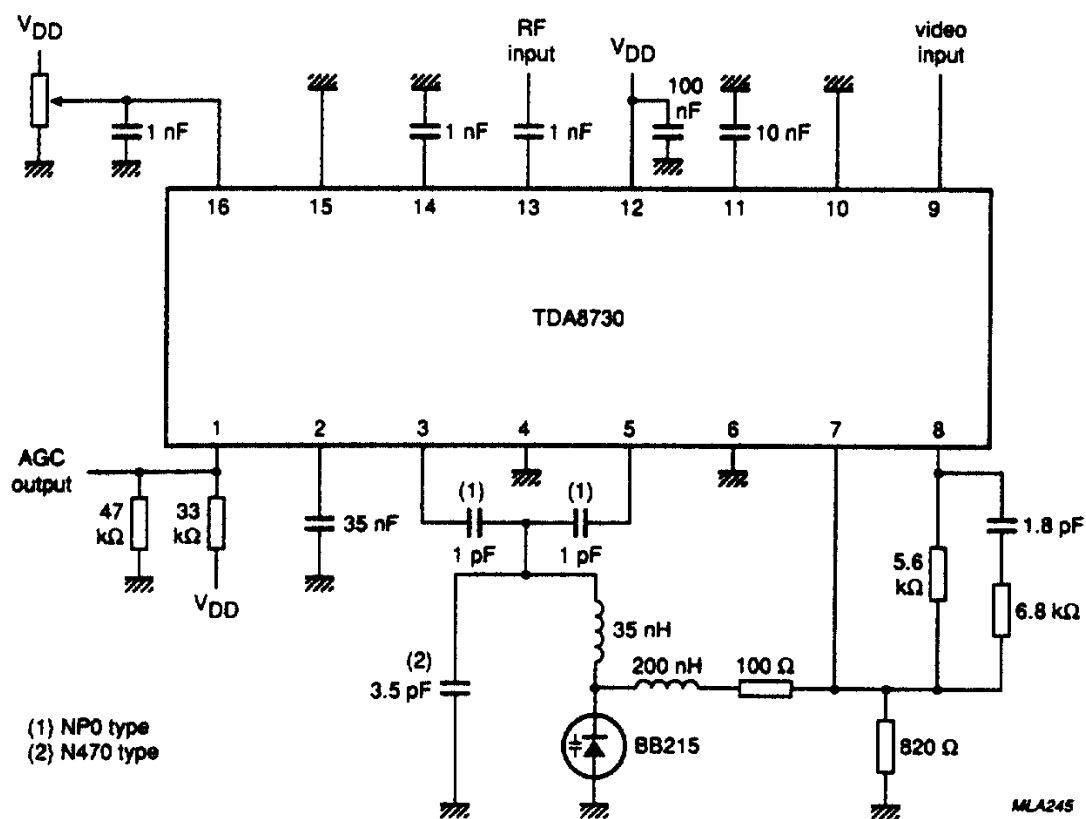

Fig.4 Application information.
$V_{DD} = 9\text{ V}$; $T_{amb} = 25\text{ }^{\circ}\text{C}$; $f = 480\text{ MHz}$; Input level $70\text{ dB}\mu\text{V}$; measured in circuit of Fig.4 unless otherwise specified.
The current consumption of this application is given by the addition of the supply current of the circuit plus the current consumption of external components in the application given. In this event (Fig.4) the typical current is 80 mA.
- The circuit of Fig.4 is designed for an input level of 70 dB μ V.
However, for levels other than 70 dB μ V the optimum loop filter values will be different from those given in Fig.4.
- In the application circuit of Fig.4 the RF input is asymmetrically driven.